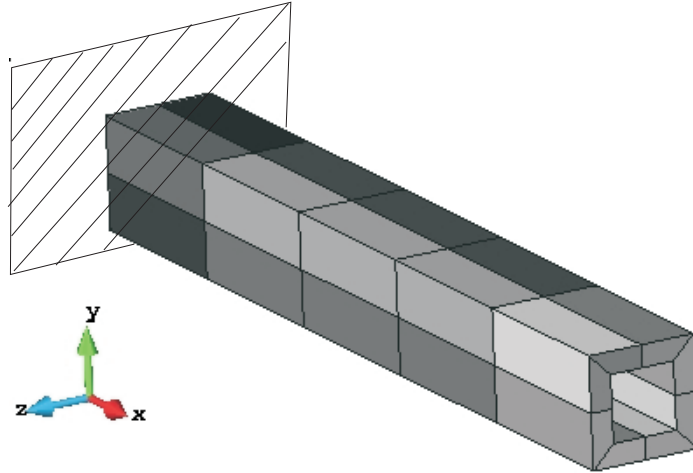

Figure 1
1. Consider the cantilever box beam depicted in Figure 1. The length of the beam is $L_X = 2 \text{ m}$, its width and height $h_y = h_z = 0.25 \text{ m}$, and its thickness $e = 0.05 \text{ m}$. The material is isotropic, with $E = 70 \cdot 10^6 \text{ kN/m}^2$, and $\nu = 0.3$. The beam is subjected to a uniformly distributed load of value $t^{(2)} = -500 \text{ kN/m}^2$ on its top surface ($y = y_{max}$).